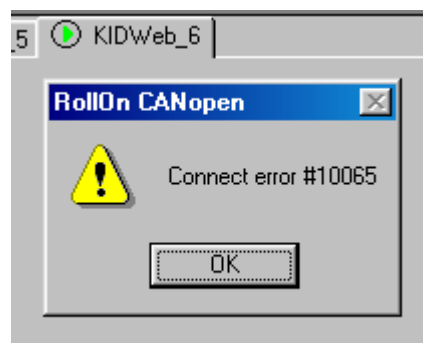

Fig. 5.1
Fig 5.1 illustrates the situation when a KIDWeb (namely KIDWeb_6) is discovered by the CANopen RollOn Configuration Tool but the warning box notifies that this KIDWeb possesses an IP address which is not reachable by the customer's network IP address, hence the communication is not possible.
- Click-to-match on the respective discovered KID Web (as an example for our demonstration case this is KIDWeb_6) – Fig. 5.1. The selection of an unreachable KID Web will force **"Connect Error"** signal box with extremely long timeout. Do not worry - be patient, please!